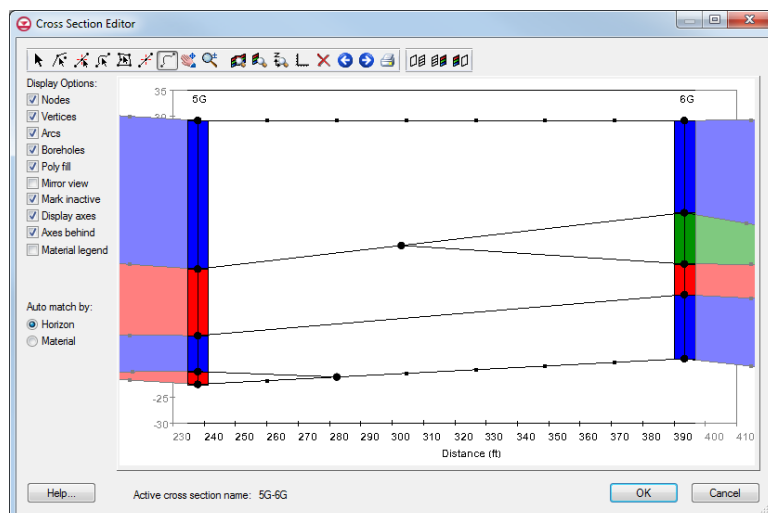

Figure 9 Cross section 5G–6G being edited
4. Using the **Create Arc**  tool, create the cross sections shown in Figure 9.